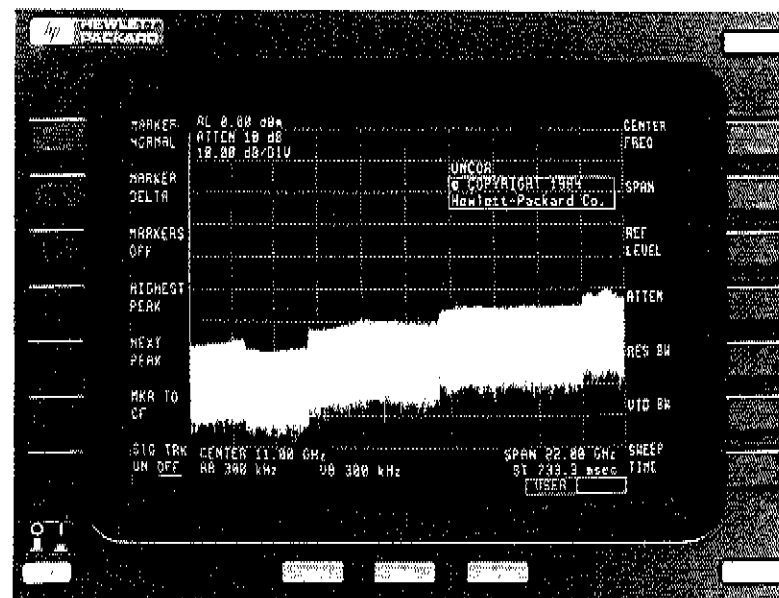

Figure 7. User Screen
2. When the User Screen appears (see Figure 7), press the DISPLAY hard key.